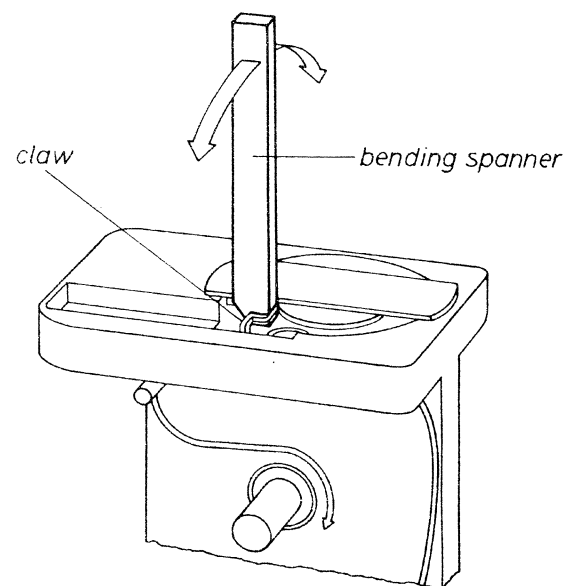

Fig. 37.1
- 3.4 Using the bending spanner 08-27.30 Z1 W17 adjust the claw as required (see Fig. 37.1).
- 3.8 If the claw passes beyond the fourth graduated mark, it must be re-bent (see Fig. 37.1). Then check the positioning of the claw (see procedure 3.2 to 3.6).
3.9 If the claw does not pass beyond the second graduated mark it must be re-bent (see Fig. 37.1). Then check the positioning of the claw (see procedure 3.2 to 3.6).